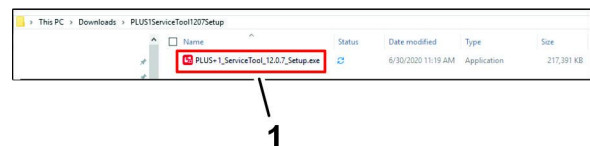

Figure 21
3. In the PLUS1SERVICETOOL1207SETUP directory, double click the PLUS+1_ServiceTool_12.7_Setup.exe file (Figure 21).